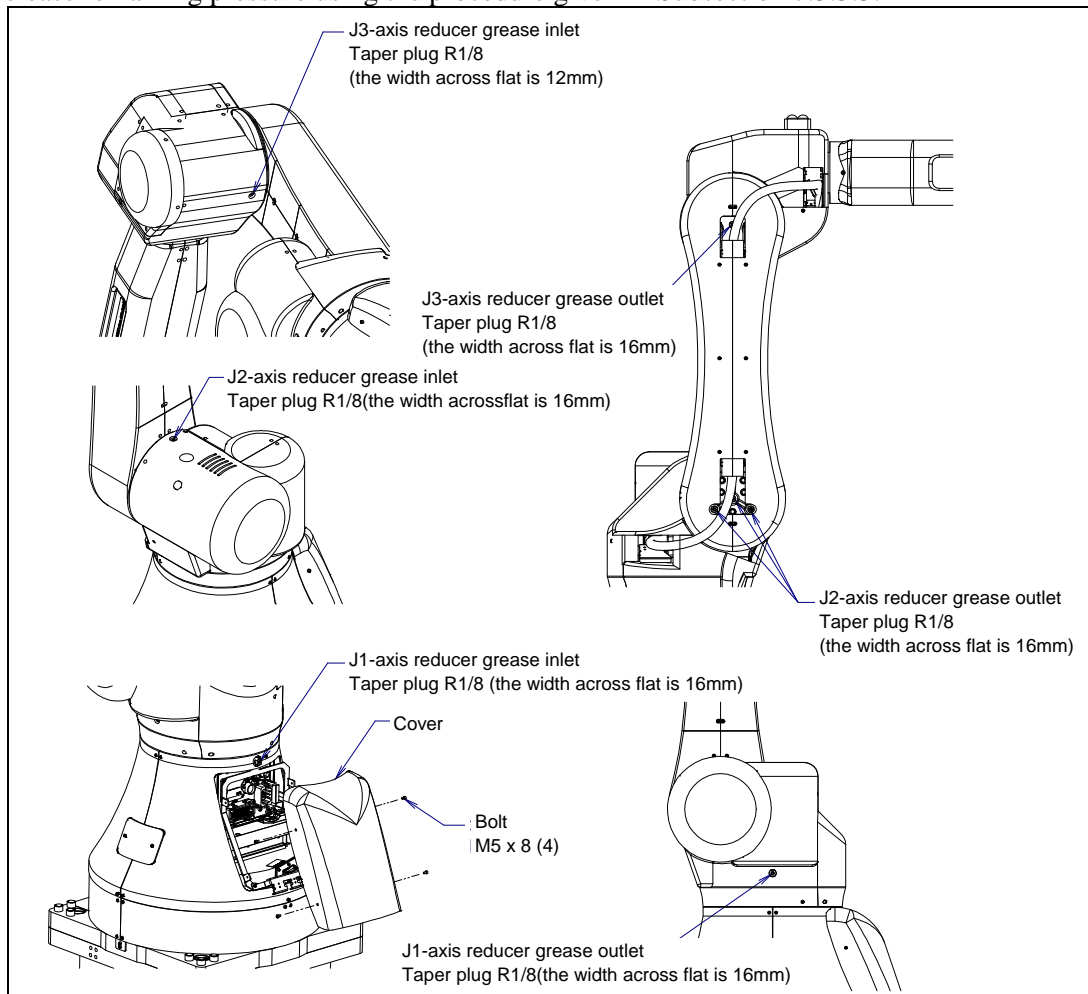

Fig. 7.3.3.1 Greasing point of J1 to J3-axis reducer
- 3 In greasing J1-axis, detach the cover referring to Fig. 7.3.3.1 .
- 4 Remove the seal bolt or taper plug from grease outlet. Hold the width across flat by a wrench etc. and do not loosen grease outlet parts when removing the seal bolt, the taper plug. (Fig.7.3.3.1)